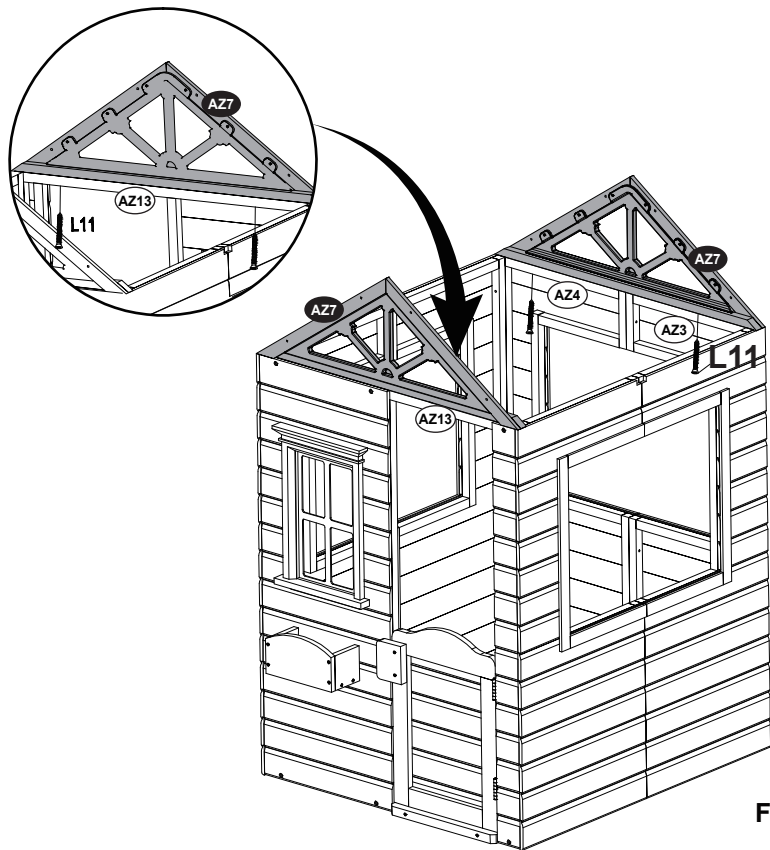

FIGURE 7
- Connect AZ7 to AZ13 using L11(2pcs) as shown in Figure 7.